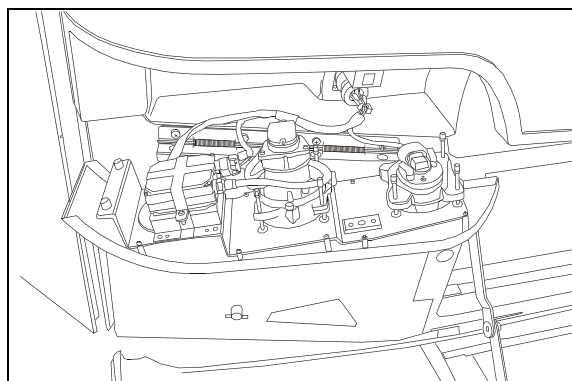

FIGURE 26: OPENING HEADLIGHT ASSEMBLY 06547
5. High beam headlights are aimed so that the center of the high-intensity zone is located at the horizontal and straight ahead vertically (Fig. 26).